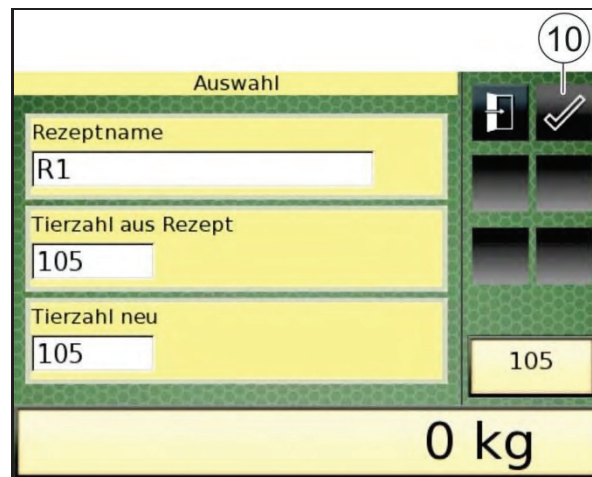
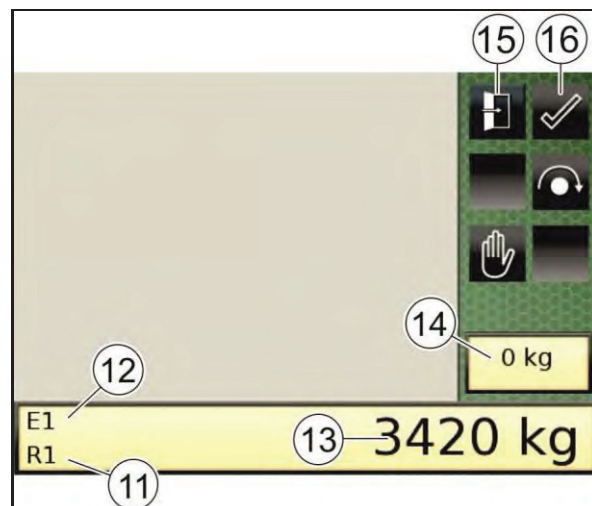

Fig. 234
Fig. 235
- Instead of the camera picture, the terminal displays an overview of the selected recipe (Fig. 234) including:
- 7. Press the "Confirm" key (10) to confirm your entry.
- The discharging mode is started. The "Discharging mode" display appears (Fig. 235).